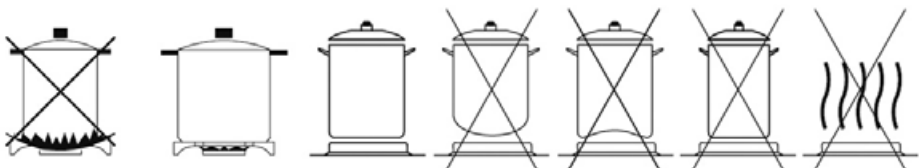

Fig. 1
- Do not use cooking utensils with a concave bottom (Fig. 1) or a smaller diameter of the bottom than recommended. The cooking performance would be impaired.